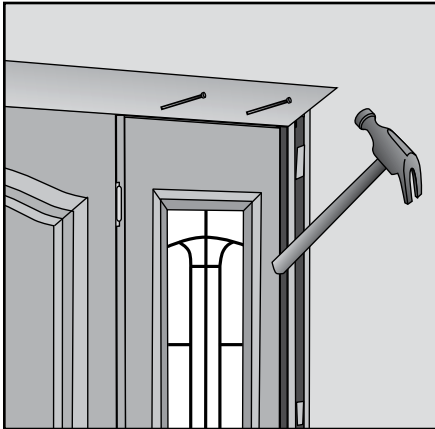

Fig. 34
B. Measure, cut and set one trim leg. Reveal of the trim to be approximately 3/16" from inside edge of jamb. Measure both ends of head trim, cut, if necessary, then set **(Fig. 34)**. Measure, cut and set other trim leg.